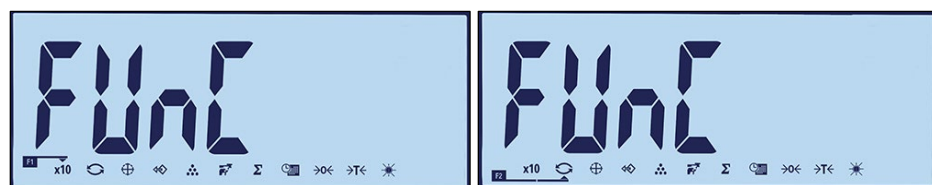

Figure 2-5: Function Keys Assignment Interface
To access the function key assignment interface, press and hold the or key when in basic weighing mode. The normal weight display will change to show an array of function icons, as seen in Figure 2-5. The currently selected function is indicated by a small arrow and a line linking it to the F1 or F2 symbol. Use the LEFT and RIGHT direction keys (and) to position the arrow next to the desired function. Figure 2-5 shows the X10 function assigned to F1 (left) and the Switch Units function assigned to F2 (right).
Enter setup (refer to Chapter 3, Configuration) and access the interface shown in Figure 2-5 at F2 – Application > F2.1 – Operation > F2.1.1 – Function key 1 and F2.1.2 Function key 2. Once the interface screen is displayed, the procedure is as described above under Assignment.